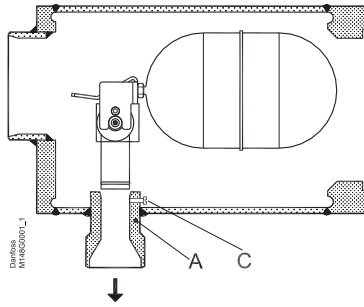
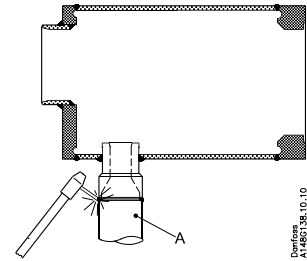

Fig. 1
Fig. 2
Mount the float valve horizontally with the outlet connection pos. A (fig. 1) vertically downwards.
The flow direction has to be from the flanged inlet connection as indicated with the arrows (fig. 1).
- Unscrew the screw pos. C (fig. 1) and lift up the float assembly from the outlet.
- Weld the outlet connection pos. A (fig. 1) into the plant as shown in fig. 2.
NB! When demand is heavy at low temperature operation, we recommend to check the velocity in the outlet branch. If necessary the diameter of the pipe which is welded on to the outlet branch pos. A (fig. 1) can be increased.
In case an insert with a slide (version before 2007) replaced by a present version, an extra threaded hole needs to be made in the outlet connection A to fix the screw (fig.1)
Monter le flotteur horizontalement avec le branchement de sortie pos. A (fig. 1) orienté verticalement vers le bas.
Le débit doit se faire dans le sens indiqué par la flèche (fig. 1).